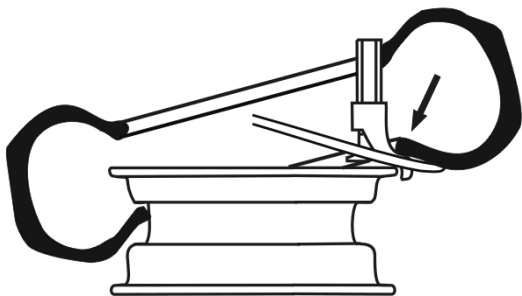

Fig.20
- Lift wheel, make the bottom edge of wheel as fig.20